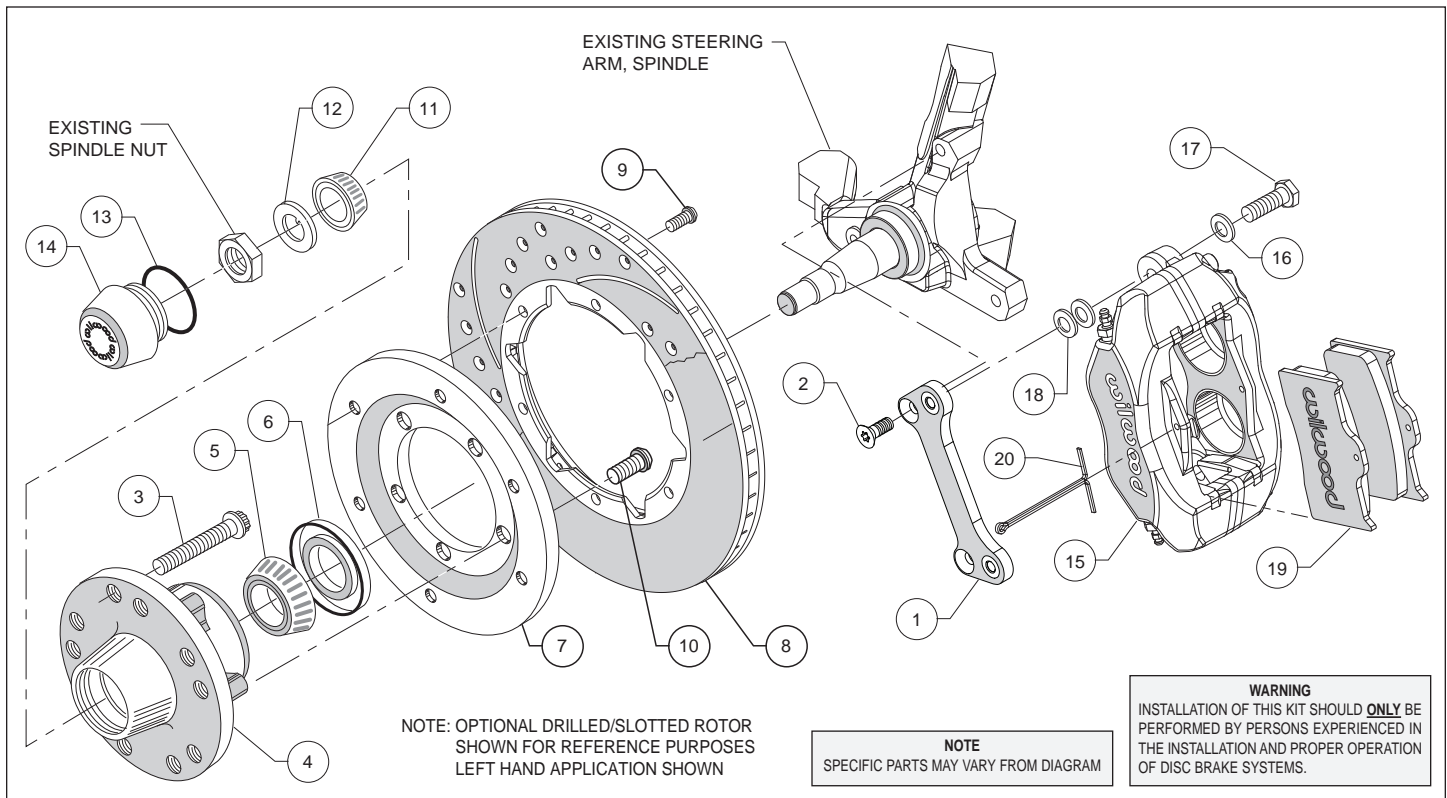
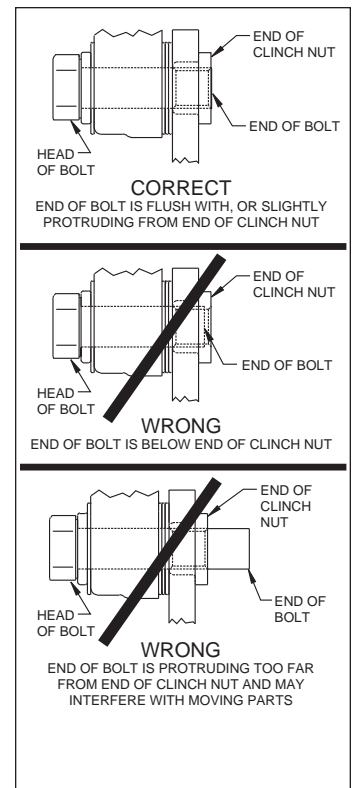

Figure 2. Typical Installation Configuration
Figure 4. Clinch Nut Engagement Diagram
Assembly Instructions (numbers in parenthesis refer to the parts list on the preceding page, and Figure 2 above): **CAUTION:** All mounting bolts must fully engage insert nuts. Be sure to check that all bolts are either flush or protruding through flanged side of clinch nut after shimming, Figure 4.
- Align caliper mounting bracket (1) with the corresponding holes, to the face of the spindle and attach using bolts (2), as shown in Figure 2 and Photo 1. Temporarily tighten the mounting bolts. Ensure that the flanged heads of the clinch nuts in the bracket are facing outboard, Photo 1. **NOTE:** The bracket must fit squarely against the mounting points on the spindle. Inspect for interference from casting irregularities, machining ridges, burrs, etc. Remove bolts one at a time, apply red *Loctite*® 271 to threads, and torque to 40 ft-lb.
- Install wheel studs (3) into the hub (4), Photo 2. Torque to 77 ft-lb. **NOTE:** There are two five lug patterns in the hub (5 x 4.50 and 5 x 4.75). Ensure the correct hub stud pattern is being used to fit the wheel application.
- Pack the large inner bearing cone (5) with high temperature disc brake bearing grease (available from your local auto parts store) and install into the backside of the hub (4), Photo 3.
- Install the grease seal (6) by pressing into the backside of the hub (4), flush with the end of the hub, Photo 3.
- Orient the rotor (8) and the rotor adapter (7) as shown in Figure 2 and Photo 4. Attach the rotor to the adapter using bolts (9). Using an alternating sequence, apply red *Loctite*® 271 to the threads, and torque to 25 ft-lb.
- Mount the adapter/rotor assembly (7/8) to the hub (4) using bolts (10), as shown in Figure 2 and Photo 5. Using an alternating sequence, apply red *Loctite*® 271 to the threads, and torque to 55 ft-lb.
- Pack the small outer bearing cone (11) with high temperature disc brake bearing grease and install into hub (4). Slide the hub/rotor assembly onto the spindle. Secure using spindle washer (12) and OEM spindle nut, Photo 6. Adjust bearings per OEM specifications. Install saved OEM nut lock (if any) and a new cotter pin (not included).
•**NOTE:** Please reference the caution statement at the beginning of the assembly instructions. Mount the caliper (15) onto the caliper mounting bracket (1) using bolts (17) and washers (16), as shown in Figure 2. Initially place two .035" thick shims (18) on each bolt between the caliper and the bracket, Photo 8. Temporarily tighten the mounting bolts and view the rotor (8) through the top opening of the caliper. The rotor should be centered in the caliper, Photo 9. If not, adjust by adding or subtracting shims between the bracket and the caliper. Always use the same amount of shims on each of the two mounting bolts. **NOTE:** The end of each bolt must be flush with or slightly protruding from the head of the clinch nut, as shown in Figure 4. If necessary place spare shims between washer (16) and caliper mounting ear to achieve the proper clinch nut engagement. Once the caliper alignment and clinch nut engagement are correct, remove the bolts one at a time, apply red *Loctite*® 271 to bolt threads, and torque to 40 ft-lb.